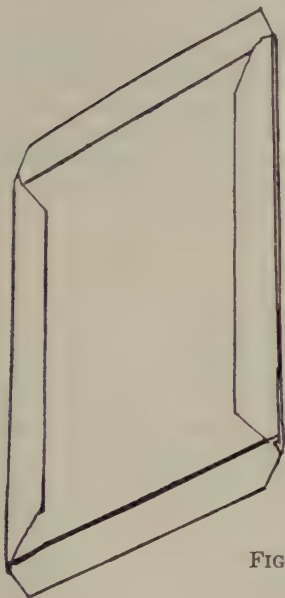

FIG. 72—FACE BOARD WITH TWO LONG EDGES TURNED-IN
5. To do this slip the point of folder under paper, carry it along edge of board so that paper first adheres to edge of board, then smooth it down on back of board, drawing it tightly from edge. When you have finished it will look like Fig. 72.